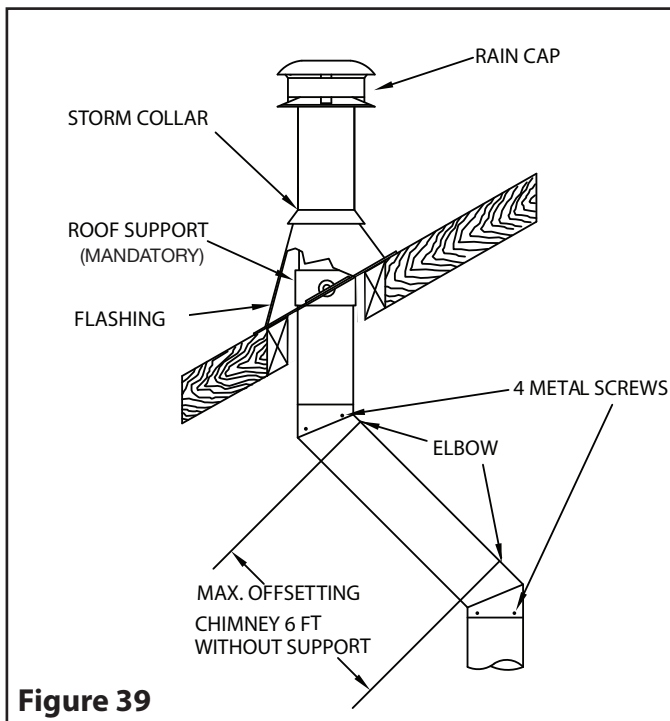

Figure 39
The maximum length of unsupported offset chimney is 6'. If the offset chimney is longer than 6', then it must be supported at 6' intervals using a Wall Support (SO-2) or a Roof Support (ST). (See **Figure 39**)